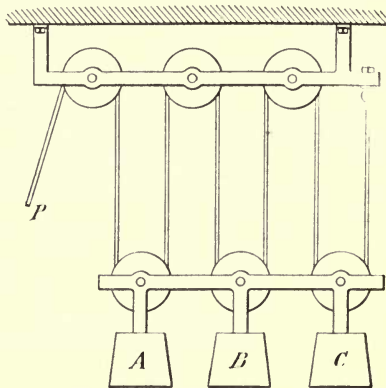

FIG. 19.—Series of Pulleys.
*Increasing the number of pulleys decreases the weight per strand, and allows a smaller force to overcome a larger at the expense of space and loss of time. (Fig. 19.)* The pulley ropes used are called tackle, and the pulley, a block. A number of pulleys placed together occupy much space and are inconvenient to handle. To avoid this, and at the same time obtain the required mechanical advantage, it is common to have several pulleys, called
4. If a rope is carried around six pulleys as shown in Fig. 19 and a pull of 100 lbs. is exerted at  $P$ , what weights would be lifted at  $A$ ,  $B$ , and  $C$ ?
6. How does the force of the arrangement shown in Fig. 19 differ from the force obtained from a block and tackle having three pulleys in each block (neglecting friction)?